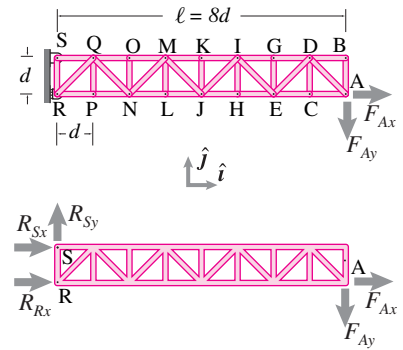
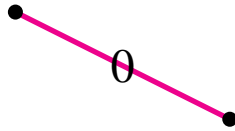

Figure 6.7: A truss with 33 bars, 18 joints and 3 unknown reaction forces. The reactions are sometimes written as, say, R_{Sx} instead of F_{Sx} .
Figure 6.9: A zero-force member is sometimes indicated by writing a zero on top of the bar.
Consider this planar model of the arm of a construction derrick (see fig.6.7). Assume F and d are known. This truss has joints A-S (skipping ‘F’ to avoid confusion with the load). As is common in truss analysis, we totally neglect the force of gravity on the truss elements ⁽³⁾. The goal is to find the tensions in the bars (the so-called ‘bar forces’).
Solving 36 simultaneous equations is generally only feasible with a computer, which is one way to go about things. However, for simple triangulated structures, like the one in fig. 6.7, you can find a sequence of joints for which hand solution is easy. If you solve the equilibrium equations as you go, there are at most two unknown bar forces at each joint. By this means, the joint force-balance equations can be solved, even for some complex structures, without computers.
From the free-body diagram of the whole structure (fig. 6.7) we find that
For the truss in fig. 6.7
Here we explain the unnecessary but useful trick of recognizing such zero-force members even before systematically using the method of joints. *Zero-force members* are bars with $T = 0$, like bars AB, BD and CD in the truss of Fig. 6.7. The basic idea is this:
- At any joint where all bars but one are in the same direction as the applied load (if any), the one bar is a zero-force member (see joints C, G, H, K, L, O, and P in fig. 6.7).
In the truss of fig. 6.7 bars AB, BD, CD, EG, IH, JK, ML, NO, and PQ are all zero-force members. Sometimes it is useful to keep track of the zero-force members by marking them with a zero (see fig. 6.9).